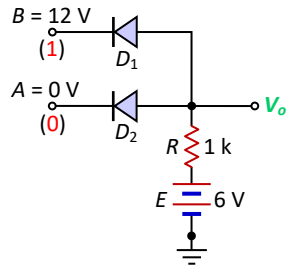

Fig.3-103: AND gate for Exercise 11
11. Fig.3-103 shows an AND gate, with a voltage source ($E = 6$ V) in series with the output load. The logic level of this circuit is: HIGH = 12 V to 11 V and LOW = 0 to 1 V. Determine the output level for the input levels shown in the figure. Also determine the current flowing through the load resistance.